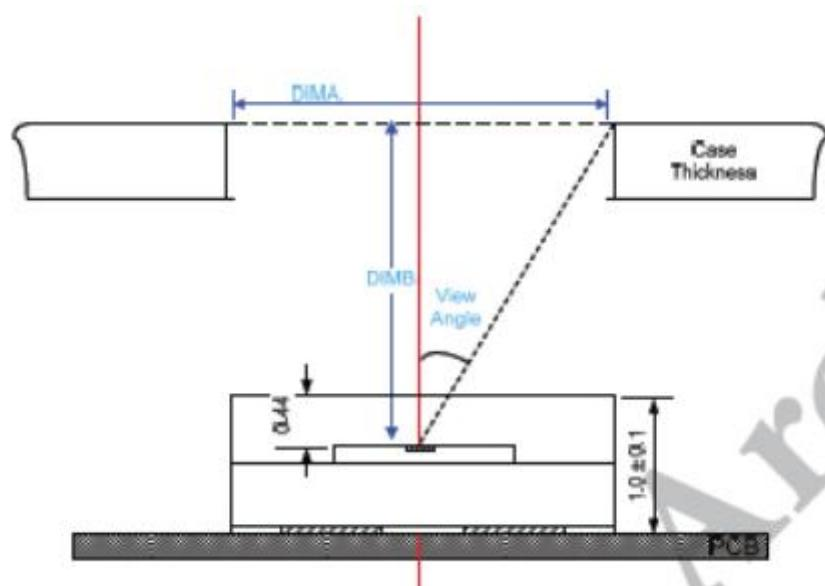

Figure 19-6
- The illumination value receiving from the surface of optical sensor depends on the size of silk screen hole and the ink luminousness, and the incidence angle should larger than  $\pm 30$  degree, shown as Figure 19-6, and the specific calculation formula and the reference value please refer to *Capella\_ALS Structure Design Guide*.